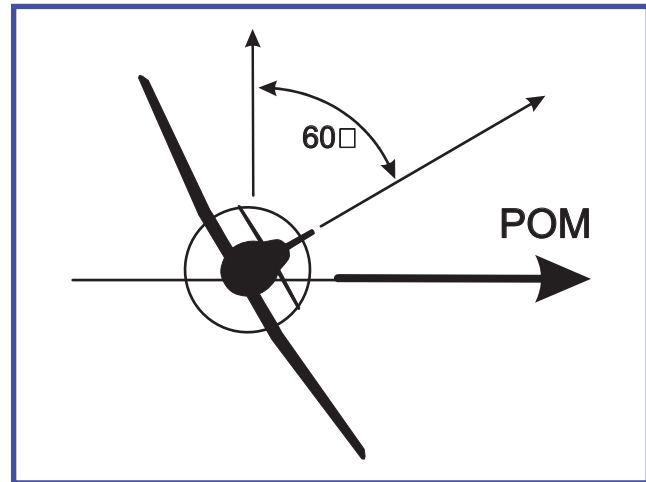
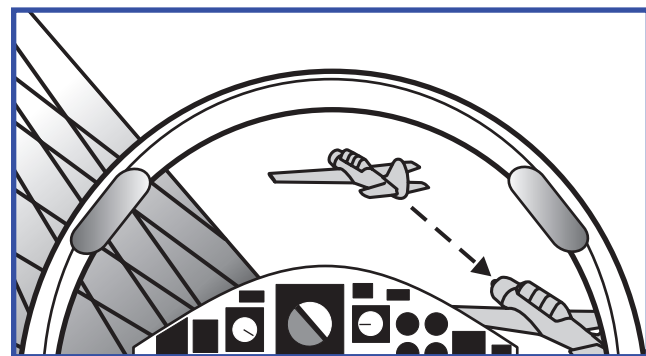

Figure 3.4 Plane Of Motion (POM)
Figure 3.5 Positive Closure Creates Aft Los Rate
An imaginary plane defined by an aircraft's *actual* flight path through the sky. Based on bank angle and load factor (G), an aircraft's POM may be horizontal, vertical or any degree in-between. Reference figure 3.5 for an aircraft at 60 degrees of bank and 2.0 G, resulting in a level POM. Figure 3.4
craft, across the canopy. When overtaking another aircraft through lead pursuit and/or airspeed advantage, an aft LOS rate will be observed. Likewise, if falling behind due to lag pursuit or airspeed disadvantage, a forward LOS rate will be observed. The LOS rate provides a valuable clue to the wingman in recognizing and controlling closure during the rejoin (figure 3.5, 3.6, 3.7, 3.8).